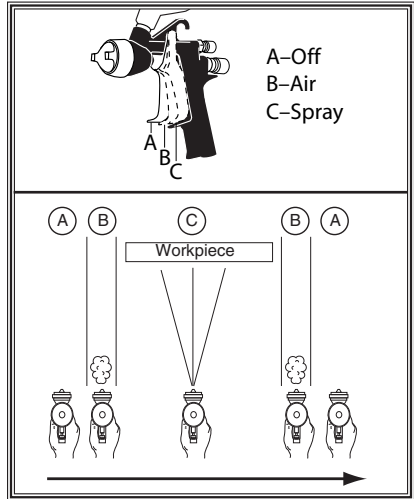

Figure 5. Spray positions.
- Begin spraying 2-3 inches before the work and continue to the end of the work, as shown in **Figure 5**. Continue the motion for a few inches past the work until you are ready for the return stroke.
Note: Trigger position **B** (**Figure 5**) introduces air to the paint gun, so that position **C** (spray), is dust, spatter, and cloud free.